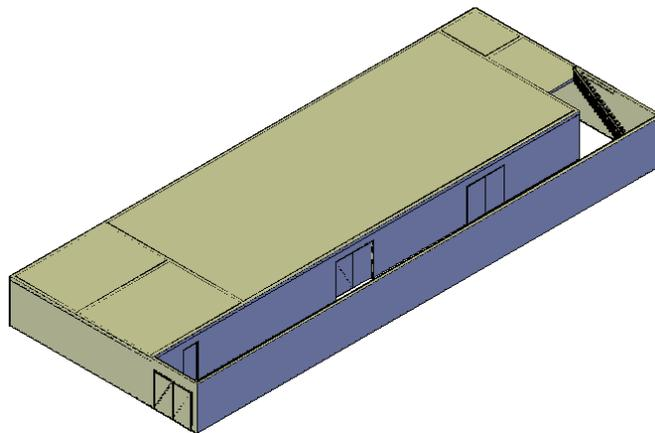
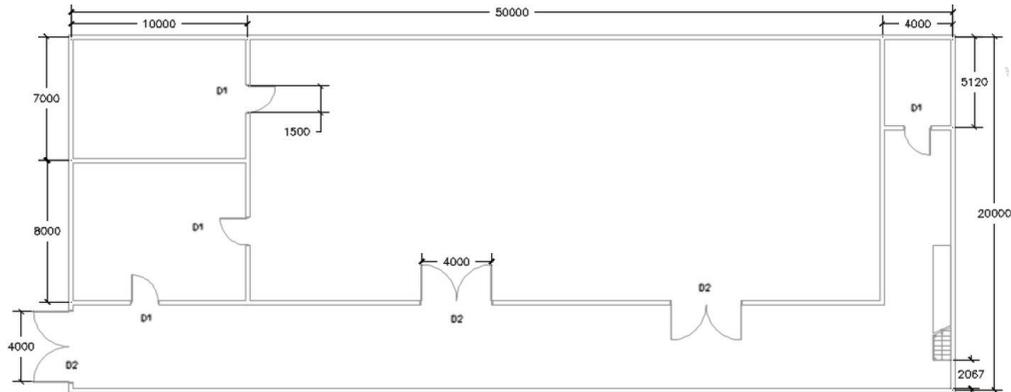

Figure 3-46 Model of a building
Figure 3-47 The plan of the building
In this tutorial, you will create a model of a building, as shown in Figure 3-46. The plan of the building is given in Figure 3-47. **(Expected time: 30 min)**
- d. Create doors according the plan, refer to Figure 3-47.
3. Click to specify the start point of the wall and then create the walls, as shown in Figure 3-48. For dimensions, refer to Figure 3-47.
Now, you need to create doors. For dimensions, refer to Figure 3-47. Make sure that the **Architecture** workspace is active.
- Click at the required locations to create the doors D1, refer to Figure 3-47.
- Click at the required location to position the doors D2, as shown in the Figure 3-47.